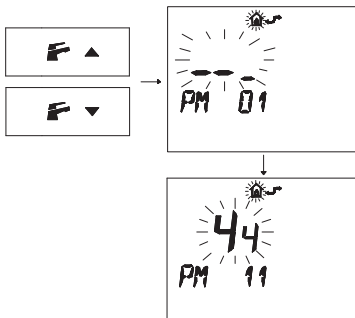

Fig. 7.30
- Press buttons **F** and **▲** or **F** and **▼** to display the "PM11" program of the pump post-circulation (Fig. 7.30).